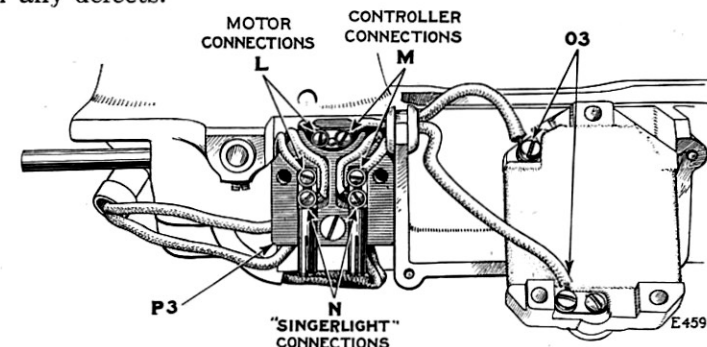

FIG. 9. SHOWING TERMINAL BLOCK AND CONTROLLER CONNECTIONS
This may be caused by a short circuit in the controller connections (M or O3, Fig. 9). Examine these connections carefully for any defects.
To reach the controller connections (M) take out the two screws which fasten the cover to the terminal block (P3, Fig. 9) and remove the cover.
on page 20. Take out the two screws which fasten the cover to the terminal block (P3, Fig. 9, page 11) at the back of the machine and remove the cover. Loosen the two screws (L, Fig. 9) and disconnect the motor wires from the terminal block.* Then take out the large screw which fastens the terminal block (P3, Fig. 9)
To replace the motor, pass the two wires and insulating cable of the motor down inside of the arm and through the hole in the bed. (A piece of wire with a hook at one end may be inserted from below to draw the wires and cable down through the hole in the bed). While drawing the wires and cable through the hole in the bed, gently insert the motor into the machine, and turn it slightly from side to side until the spiral pinion meshes with the gear on the arm shaft and the motor will slip into position. Replace the screw (K3, Fig. 24, page 27) which fastens the motor frame in the machine, but do not tighten it. Place the two motor wires into the grooves at the back and front of the terminal block (P3, Fig. 9, page 11) and fasten the ends of the wires to the terminal block by means of the two screws (L, Fig. 9), then fasten the terminal block to the machine by means of the large screw,
3. Loose or broken connections. See that the two screws (N, Fig. 9, page 11) which fasten the Singerlight wires to the terminal block are firmly tightened.